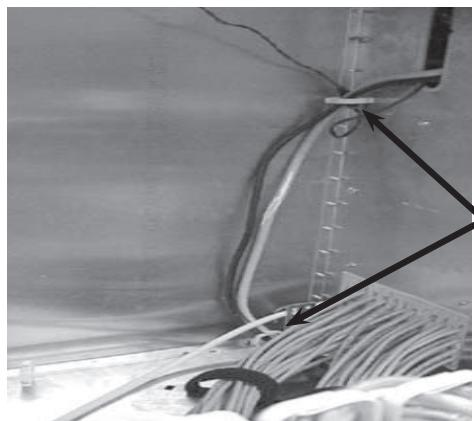

Figure 9
- Step 4** Route the power cords from any active components (switches, routers, etc.) and the fan through the routing clips provided, then through the side of the cabinet (Figure 9).